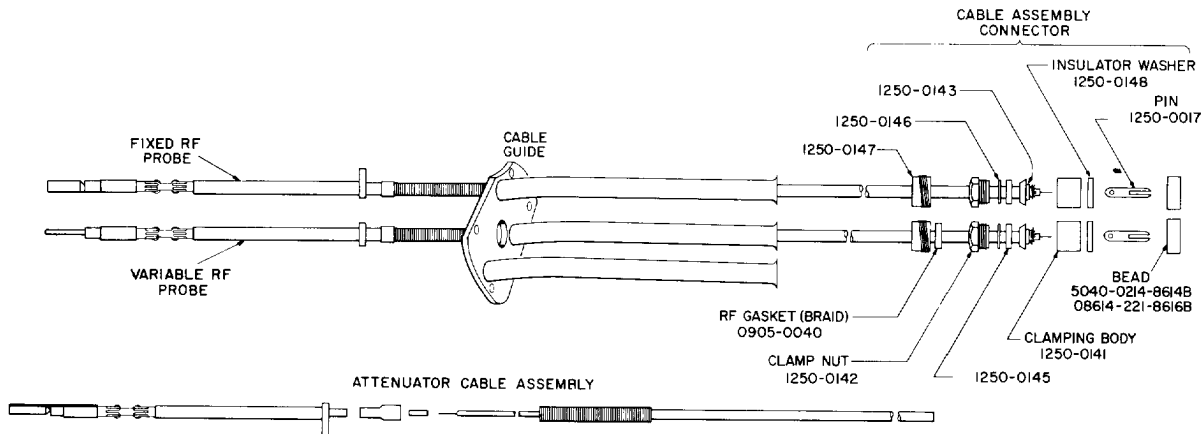

Figure 5-6. RF Probe Assembly
- d. Remove cable guide from klystron cavity casting and detach cable assembly connector from instrument (see Figures 5-6 and 5-8).
- a. The probe assembly cable must be inserted through the cable guide (see Figure 5-6).